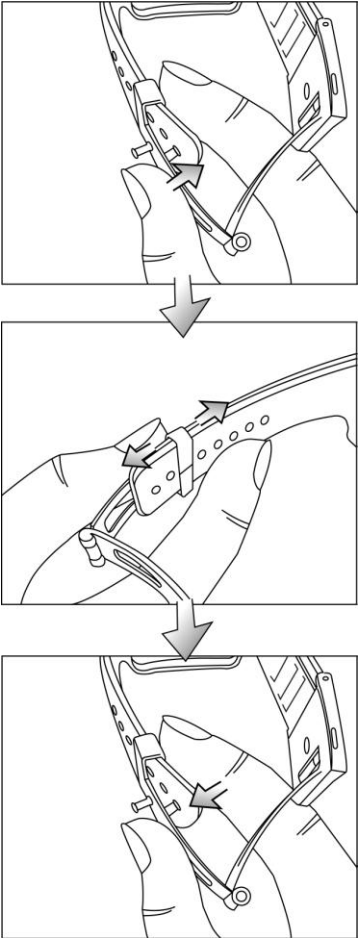

Figure 5. Adjustment of Watchband Length
1. For the first time user, please adjust the watchband length as illustrated in **Figure 5**.